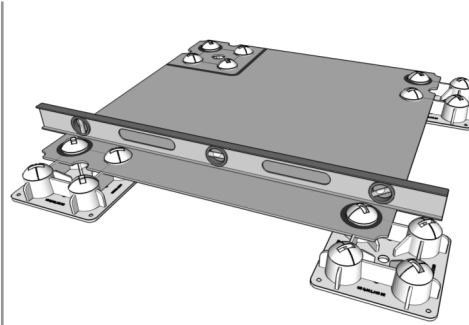
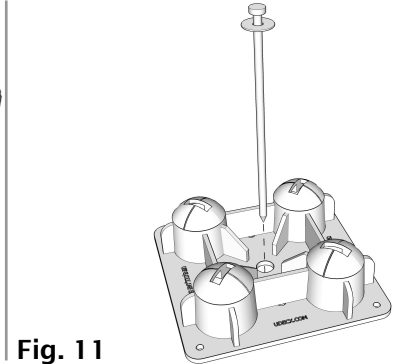

Fig. 10
Fig. 11
Level each additional Pier (A) to an adjacent Pier (A) (Fig. 10) and install Anchor Spikes (D). (Fig. 11)